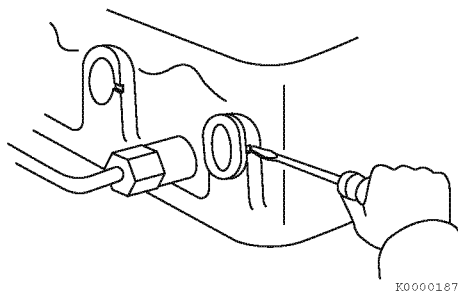
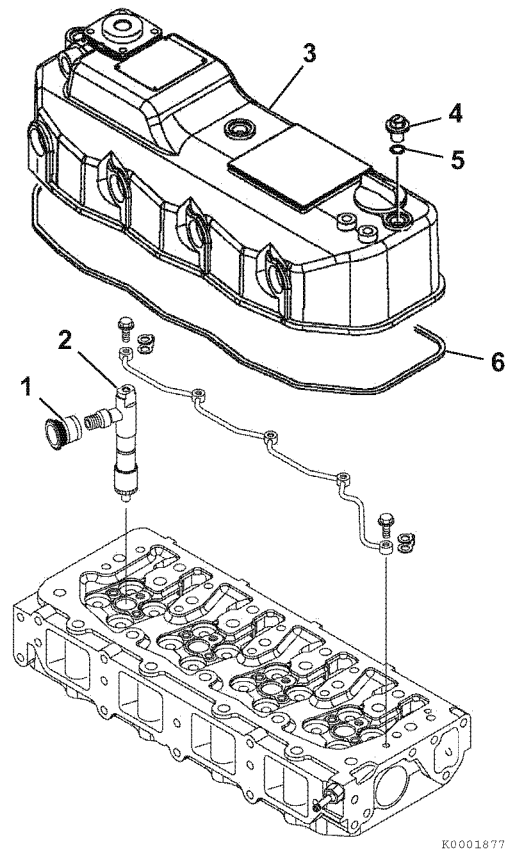

Figure 6-42
Figure 6-43
2. Use a flat-blade screwdriver (**Figure 6-42**) to remove the fuel injection line grommets (1, **Figure 6-43**) from the valve cover (3, **Figure 6-43**) and fuel injectors (2, **Figure 6-43**). There is a notch at the 3 o'clock position in the valve cover opening to insert the screwdriver.
3. Remove the valve cover nuts (4, **Figure 6-43**).
4. Remove the O-ring (5, **Figure 6-43**) on each valve cover nut.
5. Remove the valve cover (3, **Figure 6-43**). Discard the valve cover gasket (6, **Figure 6-43**).